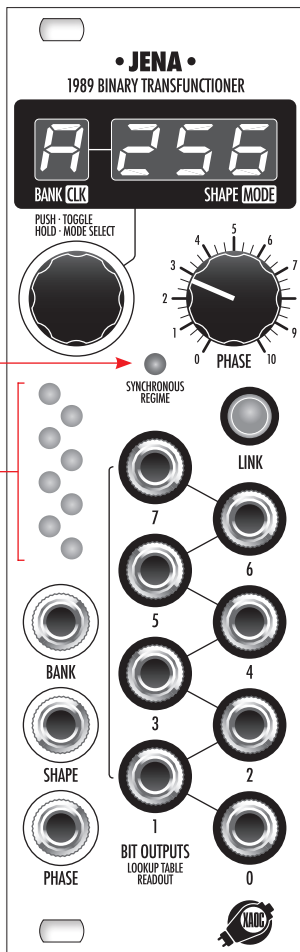

fig. 2: THE INTERFACE
The front panel of Jena (fig. 2) features all the controls as well as a 1+3 digit LED display. During normal operation, the display shows the currently selected bank of shapes or functions ❶ as well as the current shape number within the bank ❷. Additional information is displayed during operating mode selection. The endless rotary encoder below the display ❸ allows for manual selection of the current **BANK** or **SHAPE**. A short press on the encoder switches between the bank and shape layer. A small dot on the display indicates which layer is currently selected for editing. Both the bank number and shape/function number may be additionally controlled via the corresponding **BANK** ❹ and **SHAPE** ❺ CV inputs that accept -5V to +10V. The voltage values add to the panel selection. The second knob, **PHASE** ❻, sets the initial phase of the waveform which can also be modulated by external CV via the **PHASE** jack ❼. The range of modulation is -5V to 5V which corresponds to the phase change of four full cycles. The blue **LINK** button ❽ controls whether the processed input data in Jena is passed to its Leibniz output (the ribbon cable connected at the back). When unlinked, the incoming data is passed through unaffected. Regardless of the status of the **LINK** button, the processed data is always available from eight **BIT OUTPUTS** jacks ❾ in the form of eight binary gate (5V) signals corresponding to individual bits (as with the other Leibniz modules). The cluster of yellow LEDs ❿ indicates the **BIT OUTPUTS'** activity. The central red LED ⓫ indicates whether Jena is operating in the asynchronous (waveshaper) or synchronous (oscillator) regime.